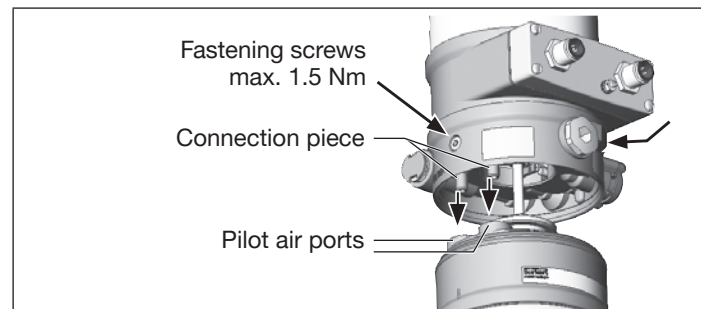

Fig. 8: Aligning the pilot air ports
1. Align the pilot air ports of the actuator with the connection pieces of Type 8692/8693 (see "Fig. 8").